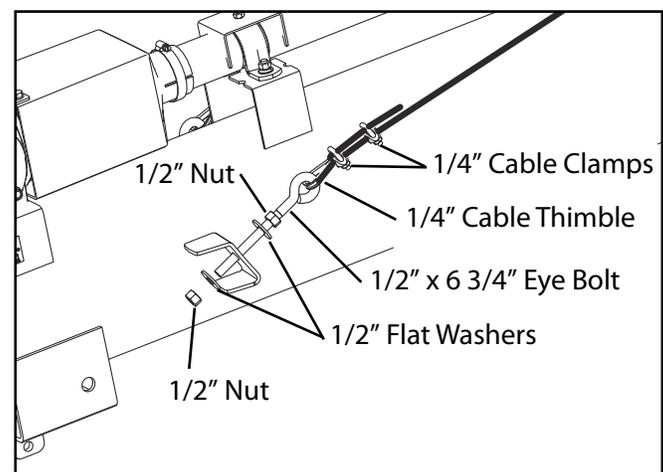

FIG. 3-7. Lower Cable Mounting
7. Attach the two 1/2"x 6 3/4" eye bolts to the truss mount brackets welded to the lower tube below the gearbox. Run the first nut up the threads as far as possible, followed by a 1/2" flat washer. Insert the threaded end into the bracket, followed by a 1/2" flat washer and just start the second nut. See Fig. 3-7.